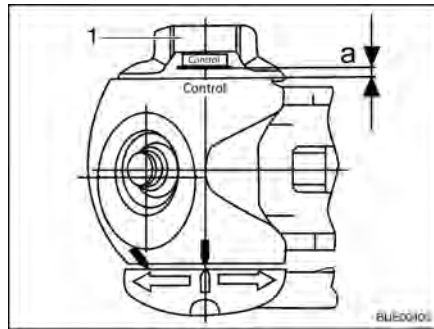

Fig. 97 Friction control
- Turn the handwheel (Fig. 97,1), until it can be heard and felt that the torque limiting mechanism grates. Direction of rotation: In a clockwise direction.
- Distance $a > 0$ (Fig. 97): Wear within the permissible range.